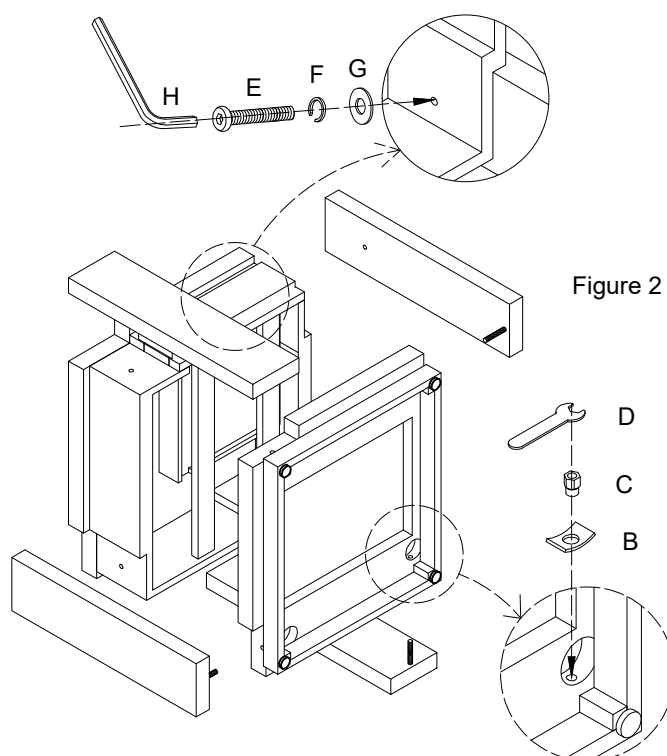

Figure 2
3. Attach legs to the bottom board by using Lock Washer (B) Nut (C) and tighten with the Wrench (D). and attach legs to the drawer box by using bolt (E), Lock Washer (F), Flat Washer (G), and tighten with the Allen Wrench (H). As shown in Figure 2.